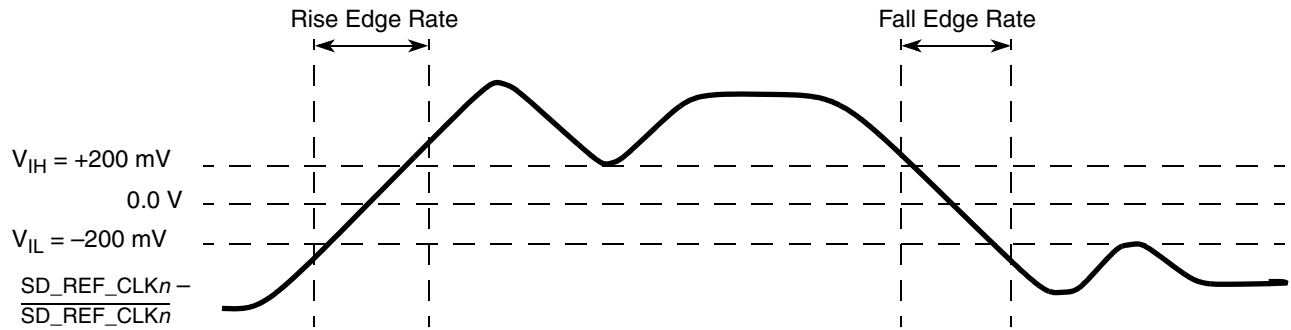

Figure 39. Differential Measurement Points for Rise and Fall Time
The differential waveform is constructed by subtracting the inverting signal ($\overline{SD_TXn}$, for example) from the non-inverting signal ($\overline{SD_TXn}$, for example) within a differential pair. There is only one signal trace curve in a differential waveform. The voltage represented in the differential waveform is not referenced to ground. Refer to Figure 39 as an example for differential waveform.
- Measured from -200 mV to +200 mV on the differential waveform (derived from SD_REF_CLKn minus $\overline{\text{SD_REF_CLKn}}$). The signal must be monotonic through the measurement region for rise and fall time. The 400 mV measurement window is centered on the differential zero crossing. See Figure 39.